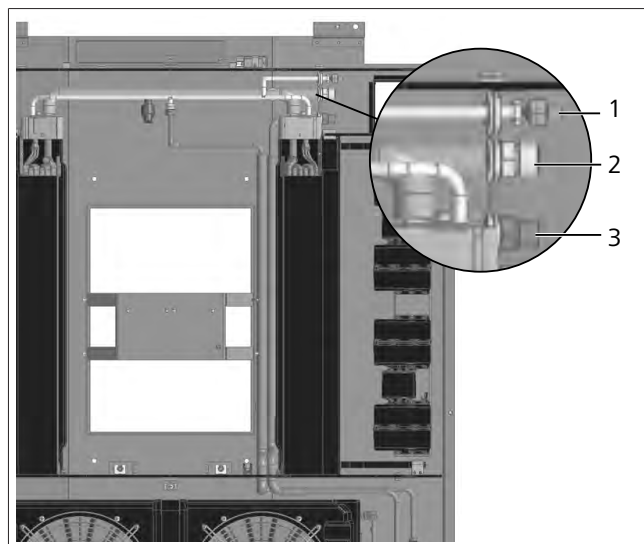

Fig. 19 Connect front-box kit
1. Install a high-pressure refrigerant hose through opening in the A/C frame. See Fig. 19.